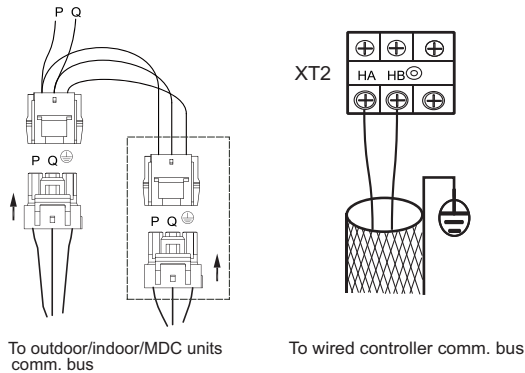

Fig. 14 — Communication Wire Connection
- See Fig. 14 for an example of communication wire connection.